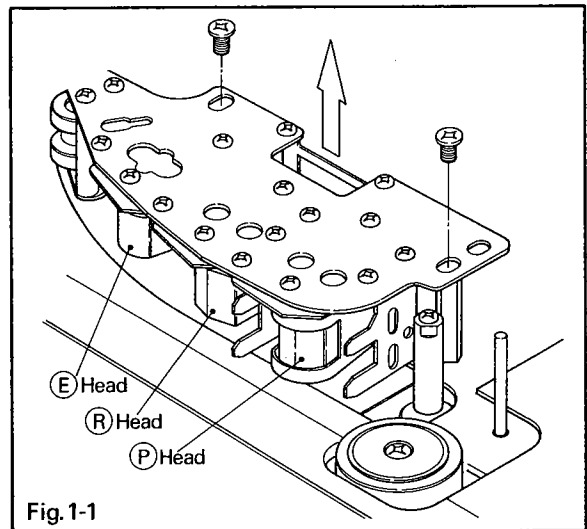

Fig. 1-1
1. Remove the HEAD COVER (6) on the front panel, then the head assembly can be seen.
2. Remove the two head assembly-fastening screws (+ M 4 X 8) by turning them counterclockwise, and pull out the head assembly in the direction of the arrow in Figure 1-1.
First pull off the head assembly from the head base before attempting to replace the head. The heads are located as the Figure 1-1 shows.